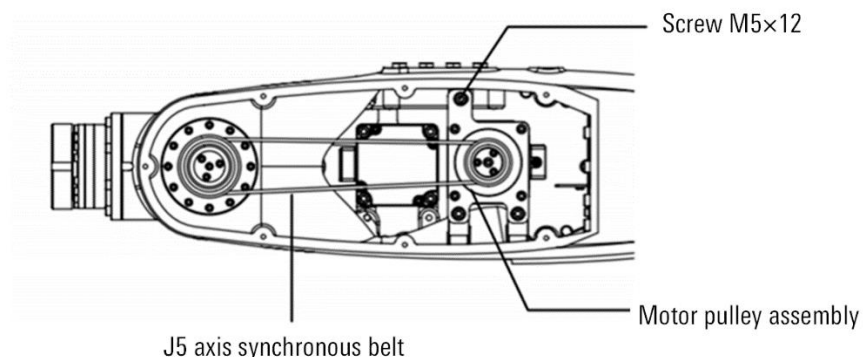

Figure 12-8 Remove the J5 axis timing belt
- Step4. Remove three M5 screws from the motor base, as shown in Figure 12-8.